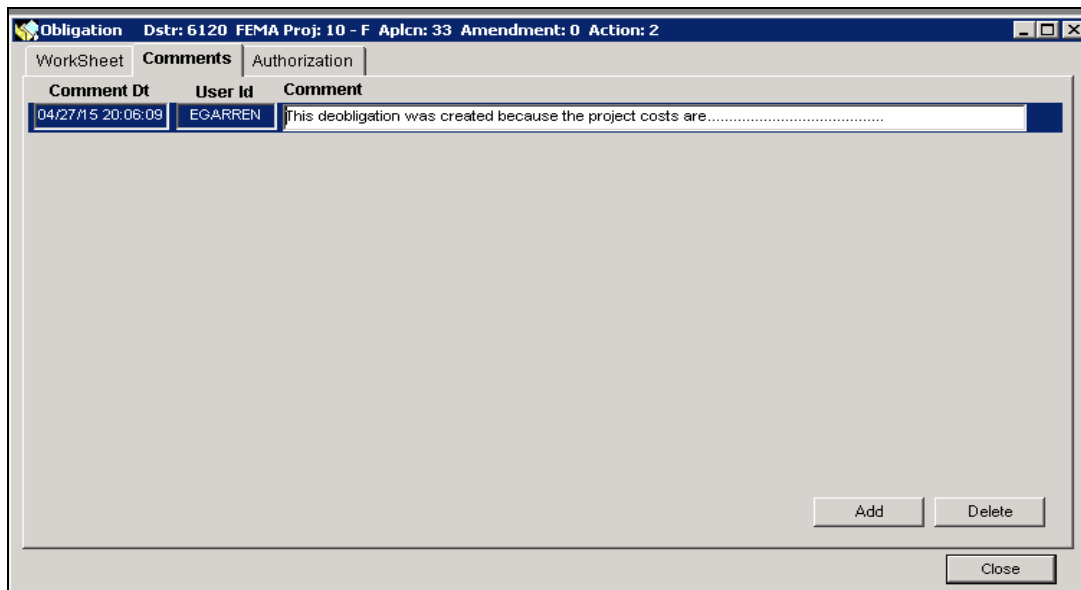

Figure 10-75: Deobligation Comments Added
18. Click the OK button. The comments are now displayed on the **Comments** tab (Figure 10-75).